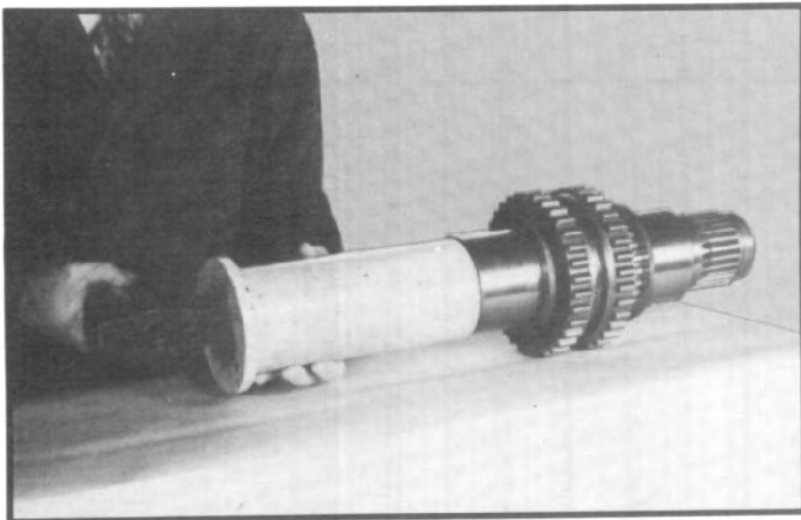

Fig. 139
- 3.3 Tap the needle bearing inner races over each end of shaft. (The needle bearing inner race must be snug against the thrust washer, See fig. 139.)